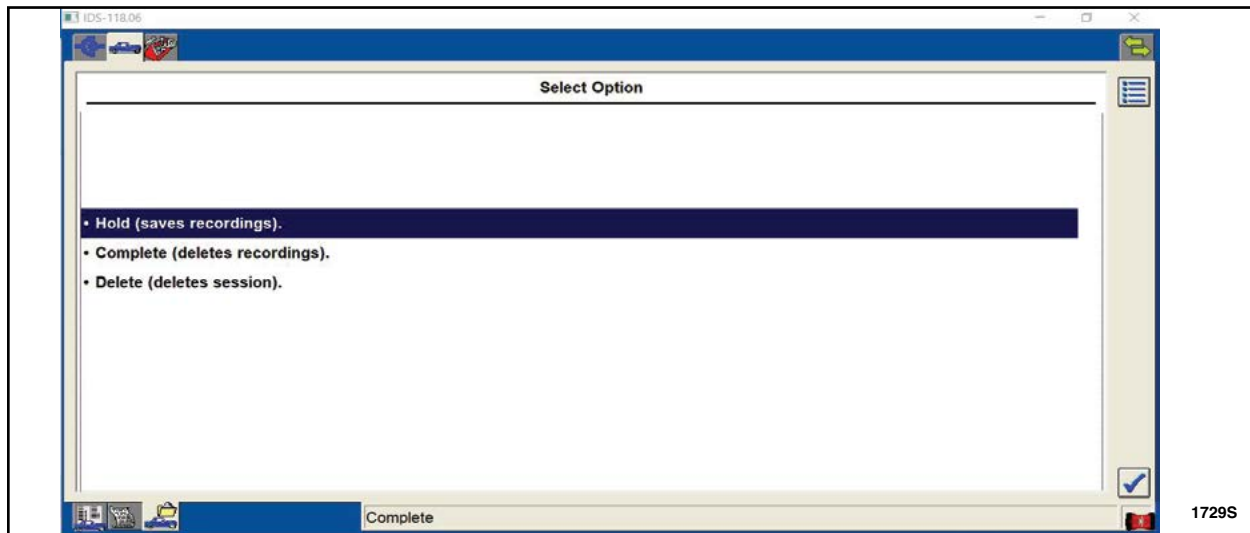

FIGURE 19
- One picture of the Vehicle Certification (VC) Label showing the Vehicle Identification Number (VIN).
- IDS Log file. See Figure 19 and 20.